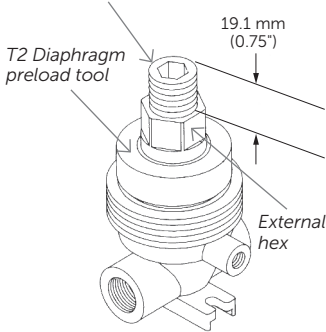

Figure 1.
11. Refer to Figure 1. Make sure the diaphragm preload tool adjusting screw is out 19.1 mm (¾") before placing the diaphragm preload tool (T2) onto the retainer nut (P1).